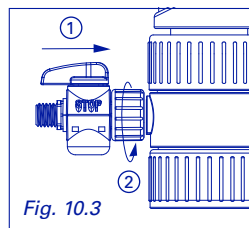

Fig. 10.3
- 2 Mount stopcock on dispenser (Fig. 10.3)
- 2 Sperrhahn montieren (Abb. 10.3)
- 2 Monter le robinet (Fig. 10.3)